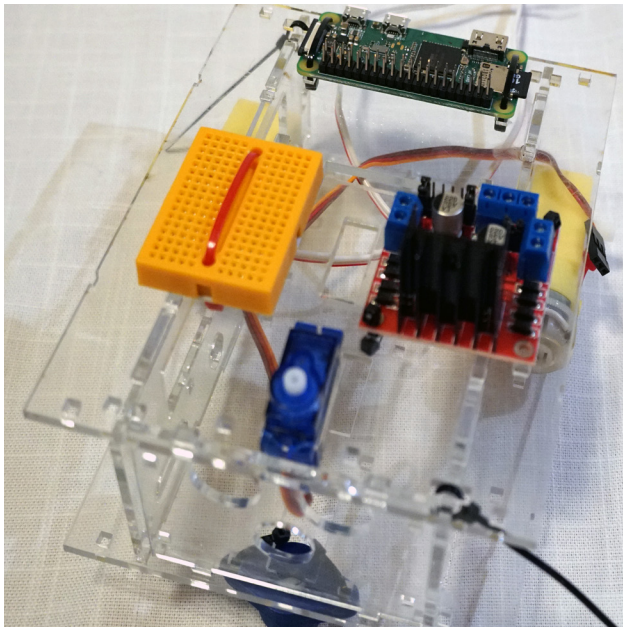

Figure 12
12. Secure the top of the chassis to the body. Make sure the servo and the marble wheel are aligned. Zip ties in opposite corners will secure everything nicely. (Figure 12)